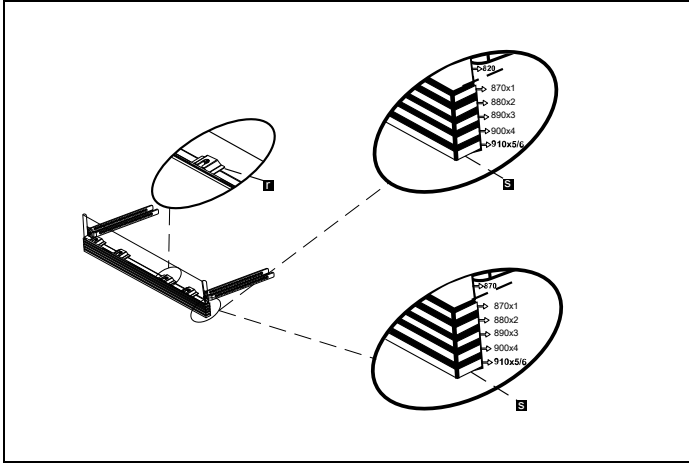

Fig. 22
- 3) As shown in Fig. 22 , the cylindrical feet of the adjustable plinth are attached to the plinth fixing metal parts and inserted through the cavity of the part.